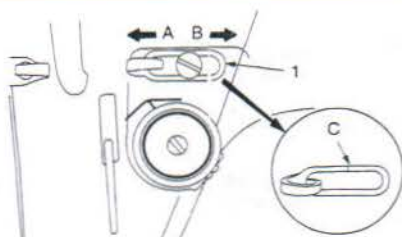

Fig.22
- 1) Loosen setscrew ①. And adjust the presser foot height and the angle of the presser foot.
- 2) After adjustment, securely tighten the set screw ①.
16. ADJUSTING THE THREAD TAKE-UP STROKE (Fig.22)